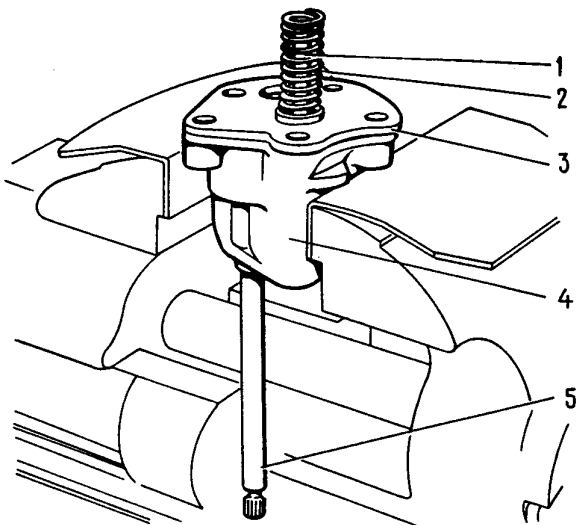

Fig. 2-69. Disassembling Oil Pump:
- remove pump body cover 3 (Fig. 2-69) and take the pump shaft with the drive gear, then the driven gear, out of the body.
- after press-fitting the bushes must be finished to the exact inside diameter (for dimensions see Fig. 2-69). To ensure perfect axial alignment of